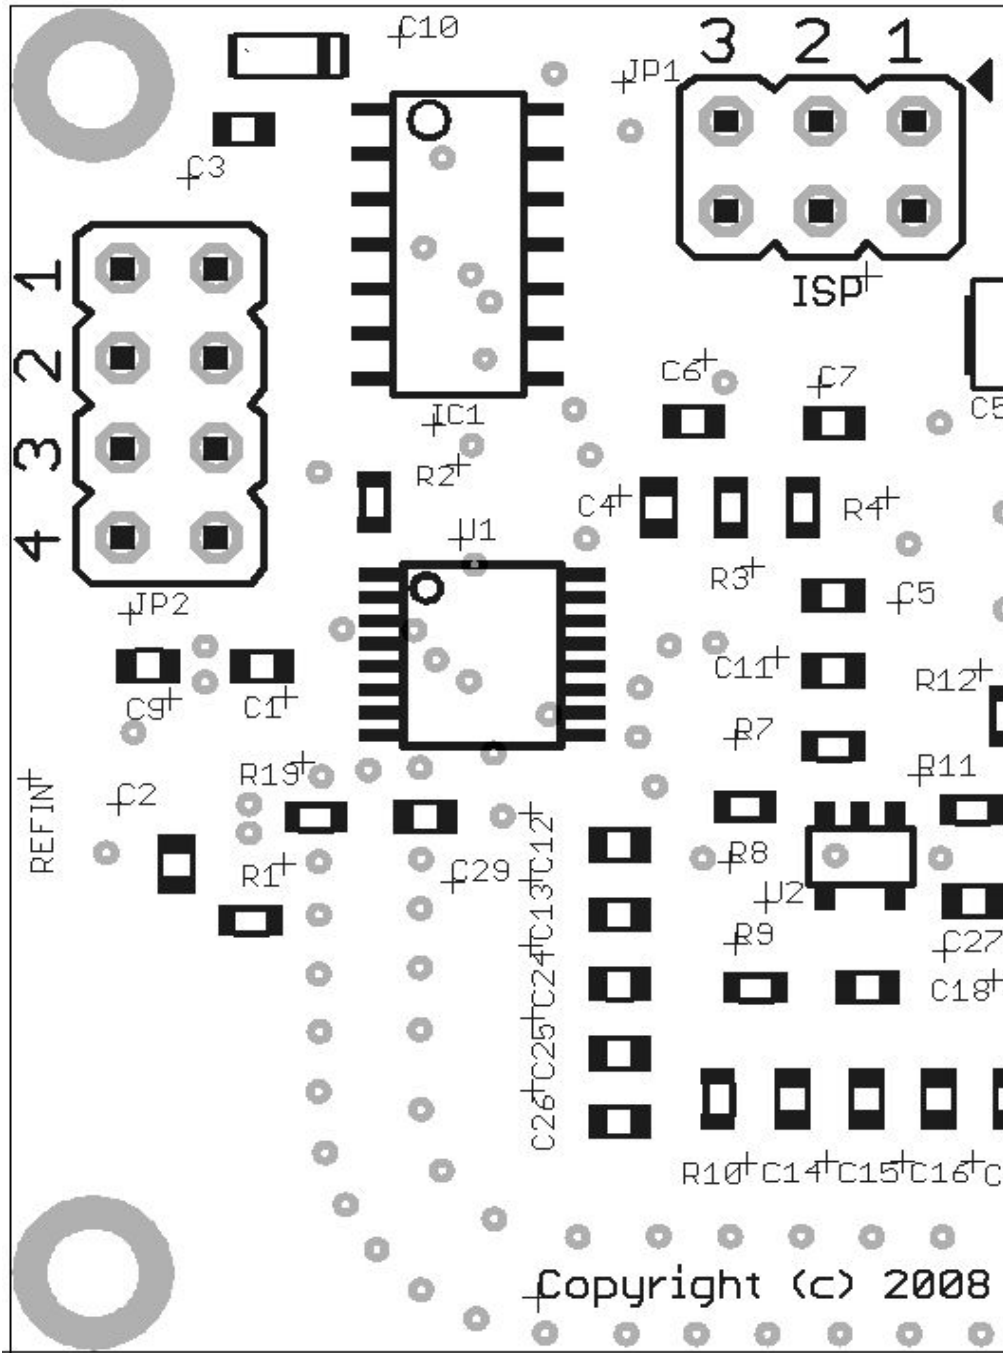

Figure 1
Opening the Model 2256-ALN to change Reference Frequency Options is accomplished by removing the six (6) 0-80 Phillips head screws from the top cover. These screws are very small so put them in a safe place until time to put them back. After the cover is opened, you will notice there are (4) four jumper options (JP2) in the upper left corner next to the reference-input port. *See figure 1 below.* There is only one jumper shunt included with the unit as shipped, and jumper positions 1,2 and 3 are not used on the Model 2256-ALN.
Remember the “**O**” is for **OPEN** (no jumper installed), and “**S**” is for **SHORTED** (jumper installed). The jumper layout is shown in Figure 1. Changing a jumper will automatically select the new reference frequency option and will not require the unit to be power cycled.